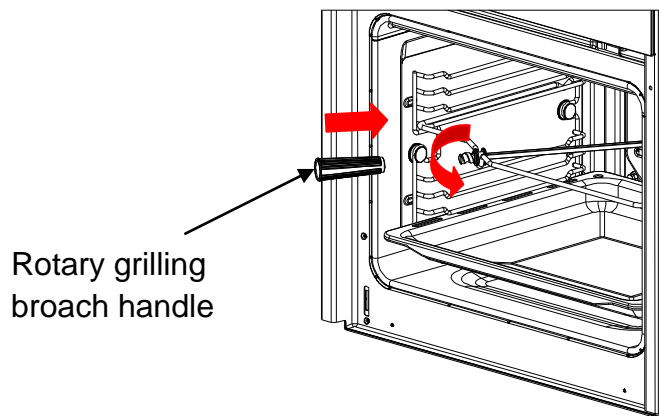

Figure 7
6. When the barbecue is complete, open the oven door, turns rotary grilling broach handle to remove food (figure 7);Screw down the handle from the broach.